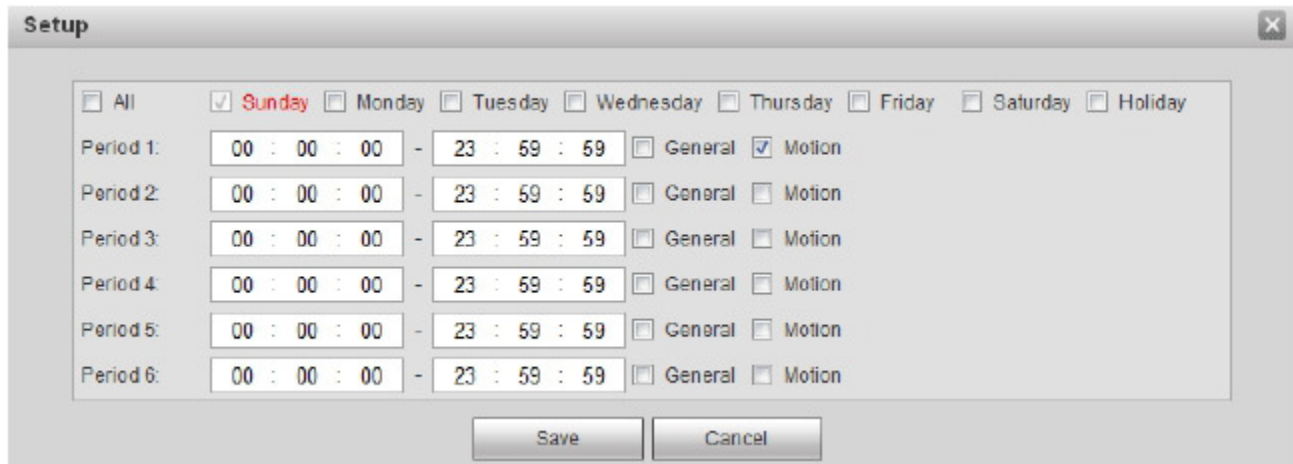

Figure 5-58
Step 2. From Monday to Sunday select record time, click on setup on the right, see Figure 5-58.